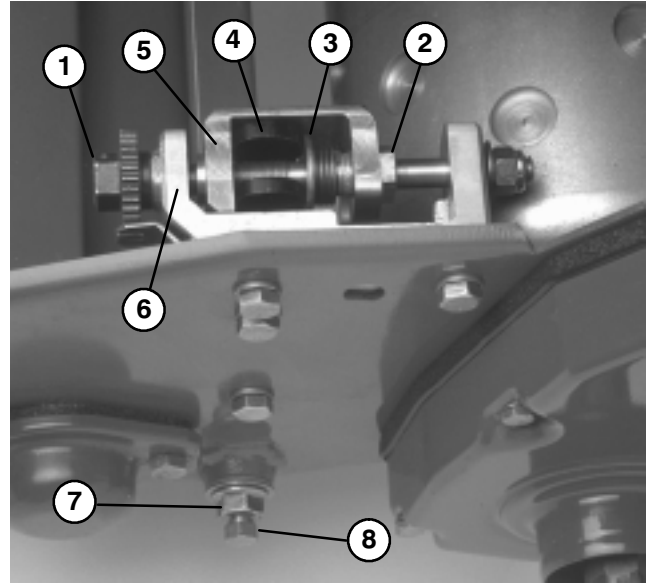

Figure 44
1. Turn bedbar adjuster screw, counterclockwise, until channel bottoms out in adjuster frame (Fig. 44).
2. Using a 7/8" standard wrench, back out the spring tension screw, until the thrust washer is no longer tensioned against the bedbar (Fig. 44).
3. On each side of the machine, loosen the jam nut securing the bedbar bolt (Fig. 44).
4. Remove each bedbar bolt allowing bedbar to be pulled downward and removed from machine. Account for (2) nylon and (2) stamped steel washers on each end of bedbar (Fig. 44).